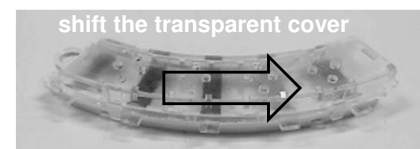

Fig.3
- The transparent cover can be removed by shifting the cover as shown in Fig.3.